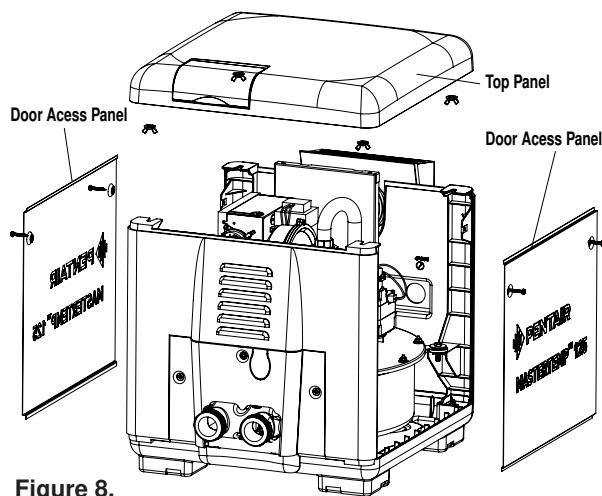

Figure 8.
1. Unbolt and remove the door panels (see Figure 8).